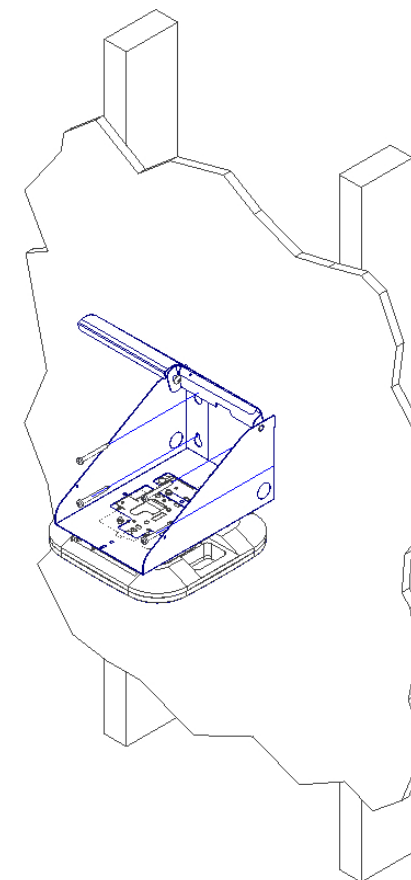

Figure 3
Step 4 – Place the mount on the wall where it is to be installed (it is recommended that you mount directly to a stud if possible) and mark the screw locations. Use a minimum of two (2) #10 x 2" or larger screws (not included) to secure the mount in place. However, if there is no stud at the mounting location, it is recommended that you use a minimum of 4 suitable anchors to secure the mount in place (Figure 3).